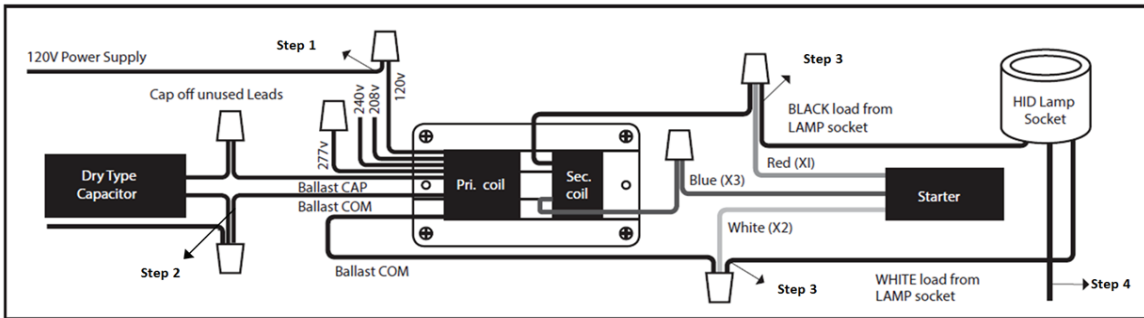

Figure 1: Bypassing the magnetic ballasts; follow steps 1 through 4 in the instructions above to bypass the HID ballast.
3. Follow the steps below to bypass the existing HID ballasts [See Figure 1].
Step 1: Disconnect Line Voltage (Hot Wire) from the HID ballast as shown in Figure 1.